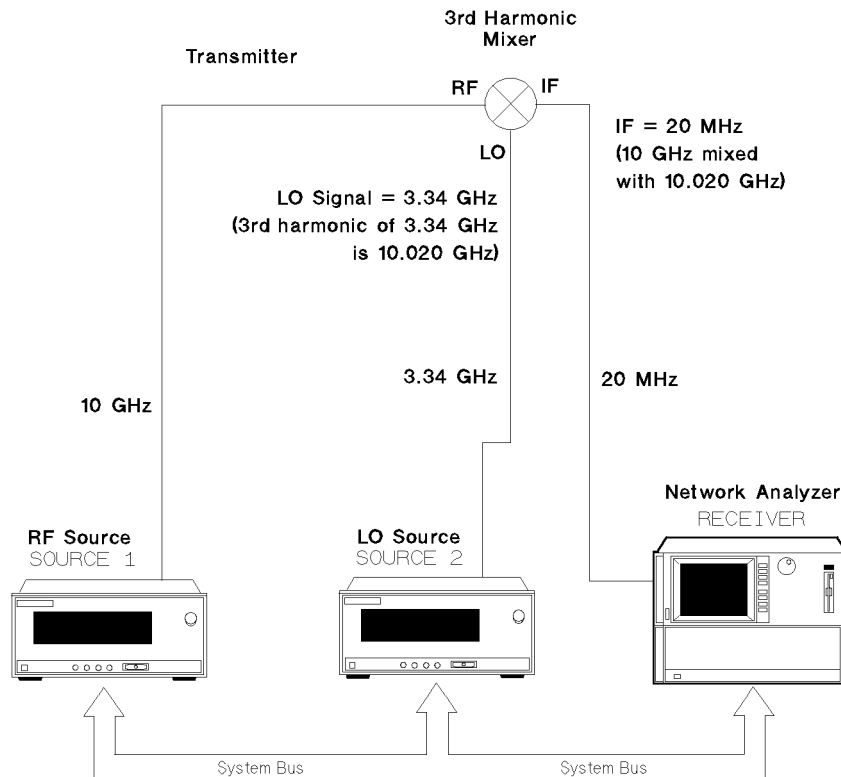
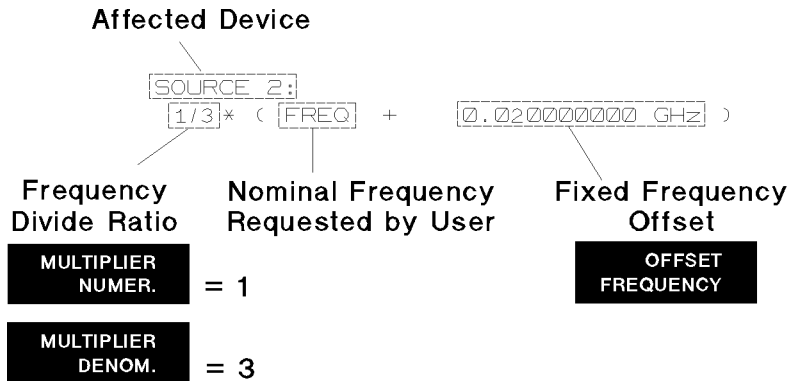

Figure 5-5. Actual LO Frequency Required by a Harmonic Mixer
Figure 5-7. Source 2 Modified for Third Harmonic Mixer System
Many measurement systems require remote mixers, and therefore require an LO source. Such a system is shown in Figure 5-5. The network analyzer controls all aspects of RF and LO source frequencies. In setups that use multiple sources, the Multiple Source Menu allows the network analyzer to properly manage these frequencies.
- The LO source must supply the appropriate LO signal to the mixer. The mixer uses the third harmonic of the LO signal. The network analyzer must compensate by setting the LO source frequency to be 1/3 of the needed frequency. The formula shown in Figure 5-7 would be appropriate for this situation.
Look at the SOURCE 2 line. Like the other two lines, this one is accompanied by a formula. Refer to Figure 5-7 and Figure 5-5.
MULTIPLIER NUMER.	As shown in Figure 5-7, the frequency multiplier is entered as a fraction x/y. This softkey allows you to enter the numerator (x), which is 1 in almost all applications. Terminate this entry with [x1] .
Note that the example setup in Figure 5-5 requires NO changes to the default SOURCE 1 configuration.